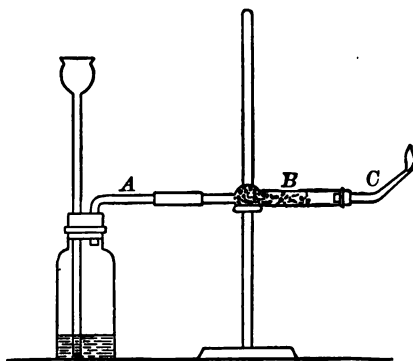

FIG. 19
*d.* Wash out the hydrogen generator, then remove the rubber delivery tube and connect the tube *A* (Fig. 19) with the drying-tube *B* by a short piece of rubber tubing. The tube *B* is filled with pieces of calcium chloride (why?), held in place by loose plugs of cotton at each end of the tube. The outer end of the bent glass tube *C* is drawn to a jet. After the apparatus has been approved by the instructor, charge the generator with 6 or 8 g.
to 10 mm. in diameter, is substituted for the glass jet *C* of Fig. 19. Spread 1 g. of black copper oxide in a layer in the tube 10 or 12 cm. from the end which is connected with the drying-tube. This is done as shown in Fig. 15, except that the tube must be held in a horizontal position and the oxide deposited at the proper place by turning the paper over. Now generate hydrogen as in § 23. After all the air has been expelled from the apparatus and the generator has been wrapped in a towel, cautiously heat the copper oxide to